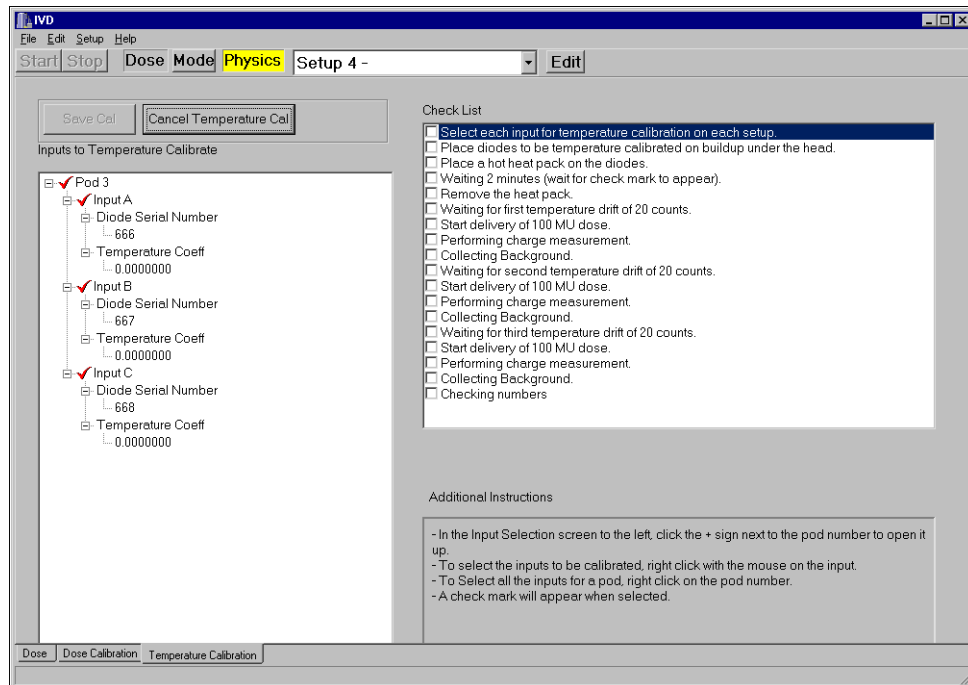

Figure 4-24. Temperature calibration view
- 5 Now follow the on-screen "Check List" (Figure 4-24).